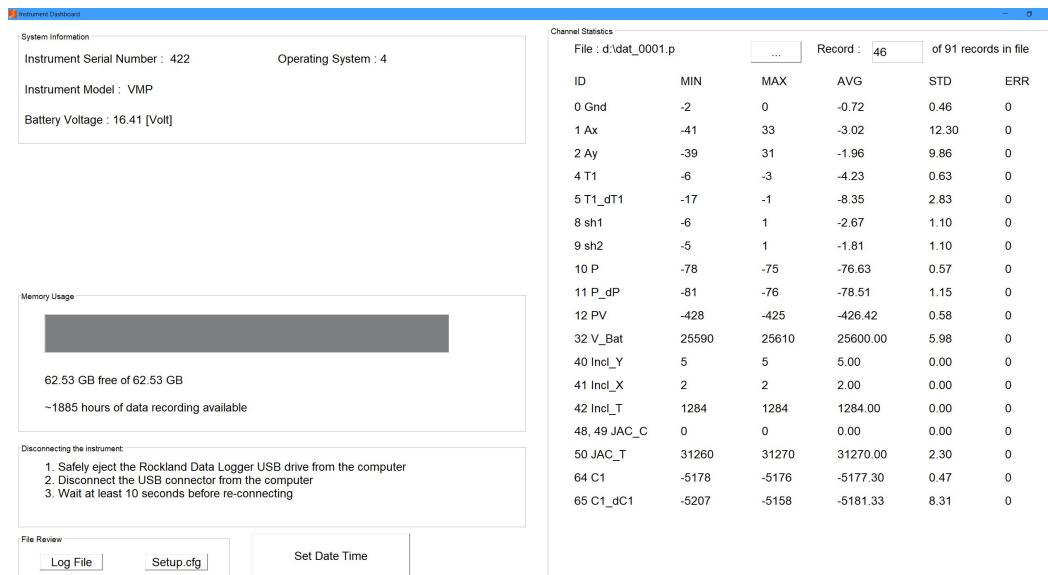

Figure 26: Viewing the Rockland Data Logger status with Zissou Essentials.
Connecting to the instrument using the Zissou Essentials software provides additional functionality via the “Instrument Dashboard” (Figure 26). For more information, refer to the Help menu of the Zissou Essentials software program. When the connection is made with the Instrument Dashboard, the computer will simultaneously connect to the Data Drive (as described
7. The Instrument Dashboard will appear and provide you information about your instrument and your Rockland Data Logger (Figure 26). Refer to the “Help” menu of the Zissou Essentials software program for more information about the dashboard.